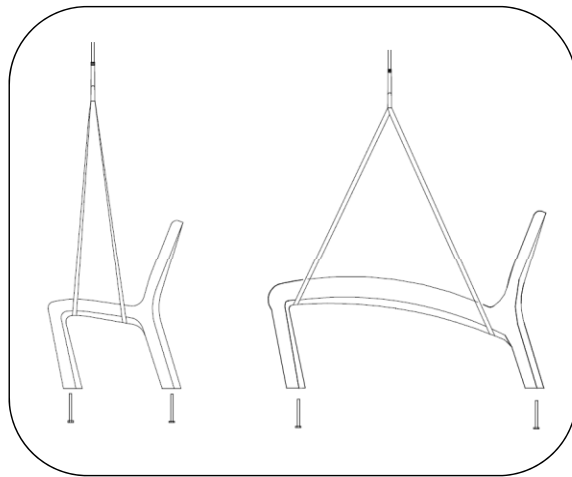

Fig. 1 – Proper lifting procedure
1. Set in place with proper equipment such as a forklift or crane. See Fig. 1.